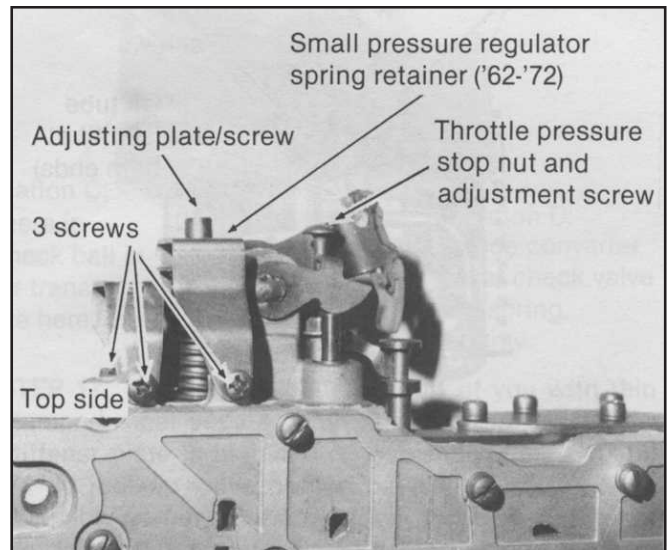
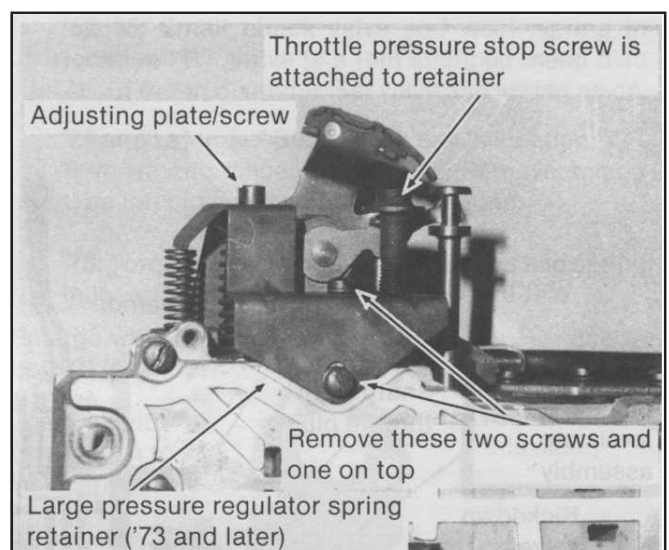
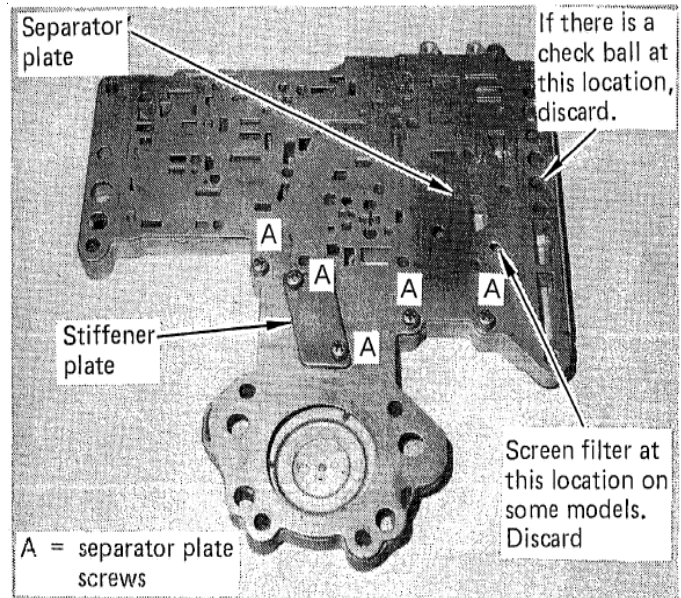

Figure 4
Figure 5
**FIGURE 10**
Now remove the pressure regulator spring retainer located next to the selector lever. (See Fig. 4) Remove three shorts screws to remove retainer. Late model valve bodies with large cage will require removal of one long valve body screw. (See Fig. 5)
**CAUTION:** Hold your hand against the retainer while removing the screw (See Fig. 4) so the large pressure regulator spring does not fly out. Remove the retainer and adjustment plate, pressure regulator spring and converter valve spring and set them aside. Remove the regulator valve and converter valve and lay them next to their respective springs. Large cage models: Be careful that the throttle pressure valves do not fall out when working on the valve body.
**STEP 6.** Set the valve body on the bench with the filter side up and the selector lever assembly in the top left corner. The valve body consists of: (1) thick casting containing the valve bores and will be referred to as the casting; (2) a thin stamped steel plate with numerous different shaped holes called a separator plate, and; (3) a thin aluminum casting that looks like a maze called a transfer plate.
STEP 10. Install pressure regulator valve into its bore. (See Fig. 10) Install converter valve into its bore. Both valves should move freely and easily. Remove any burrs that may cause stickiness or binding. Set casting aside.
Align transfer plate assembly over casting and hold the two halves together with your hand. Install fourteen screws in place finger tight. (Note: Three long screws are for the filter.) Install pressure regulator spring and converter valve spring in place. (See Fig. 10) Insert pressure regulator adjusting plate into place in retaining cage. Adjusting plate is a close fit when properly installed inside the retainer. Engage pressure regulator spring with adjusting plate and engage converter valve spring with prong in retainer. Hold retainer against valve body, align screw holes and install three short screws finger tight. (See Fig. 4)